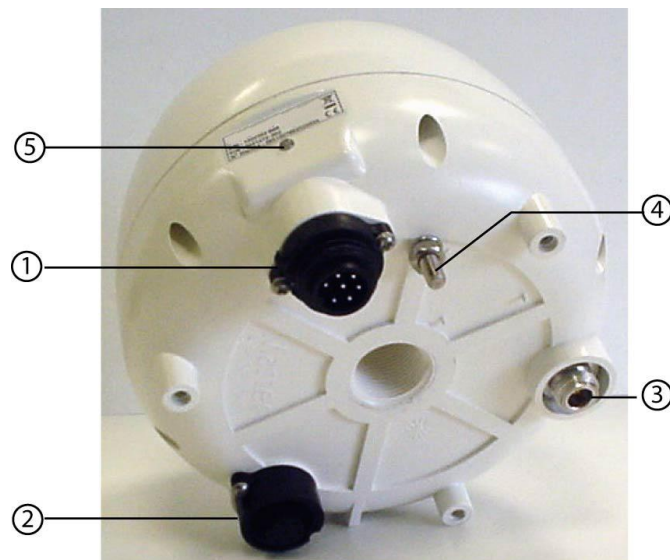

Figure 4: Electrical interfaces
The KanAtoN 3 AIS Transponder is supplied with hardware designed to provide a variety of installation configurations (see figure 4). The dome can be mounted on a mast, a horizontal railing or on either a horizontal or vertical flat surface.
5. Connect the ground of transponder to the ground of buoy (refer to Figure 4 item 4).